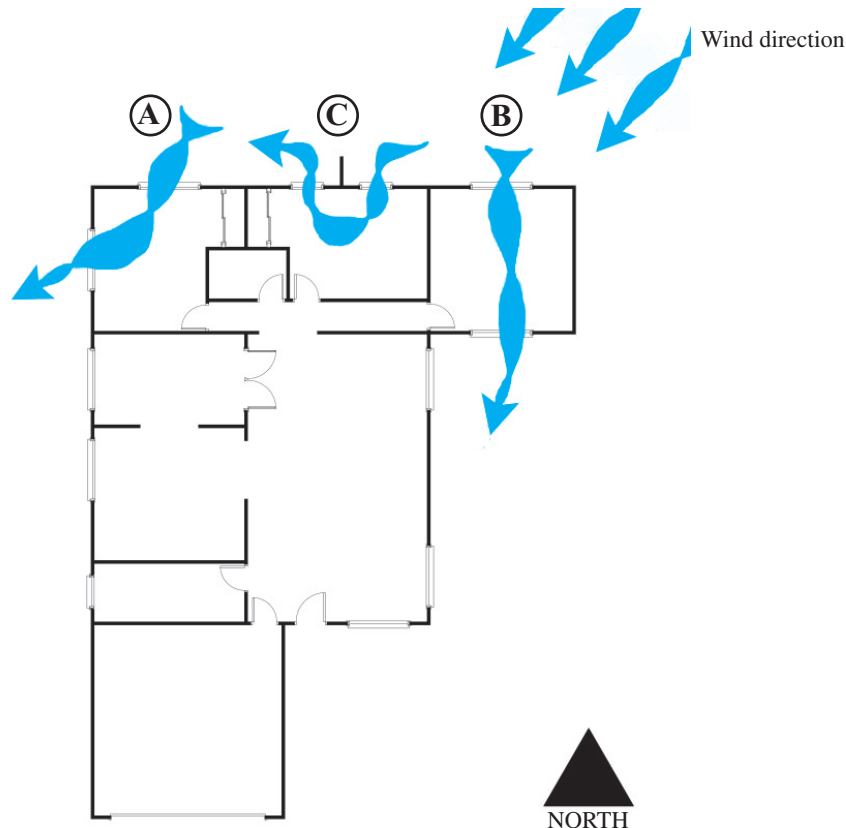

Fig. 12-1: Basic Natural Ventilation Strategies.
For adequate ventilation, there should be at least two operable openings to the outside in each space. Operable openings include operable windows and entries (doors). Entries should have screen doors. Solid doors should be provided with a door catch to hold them open. Two common window configurations are: openings on adjacent walls (A), and openings on opposite walls (B) (see Figure 12-1). Spaces with only one exterior wall are difficult to ventilate effectively. In this situation casement windows or a wing wall may be used to improve ventilation (C).